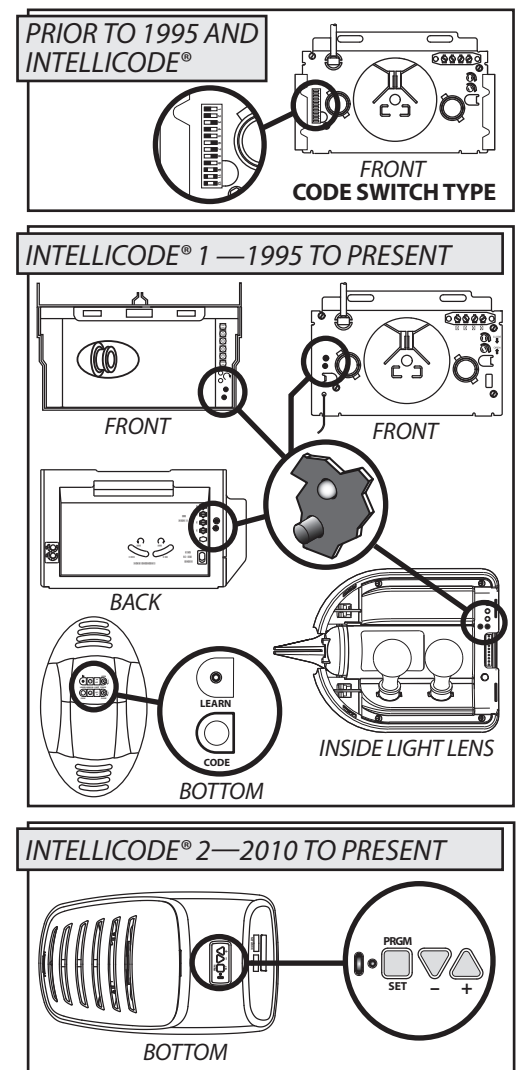

FIG. 2
The Universal Remote comes from the factory in the *Intellicode*® 1 Operating Mode. The *Intellicode*® 1 Mode is indicated by a RED LED on the remote whenever a button is pressed (FIG. 2).
3. Press and release a Remote Button, (FIG. 2)—the Learn Code LED will stay on (stops blinking)
The button or buttons on your remote that you wish to use to operate *Intellicode*® 2 openers, must be switched to the *Intellicode*® 2 Operating Mode. The *Intellicode*® 2 Mode is indicated by a GREEN LED on the remote whenever a button is pressed (FIG. 2).